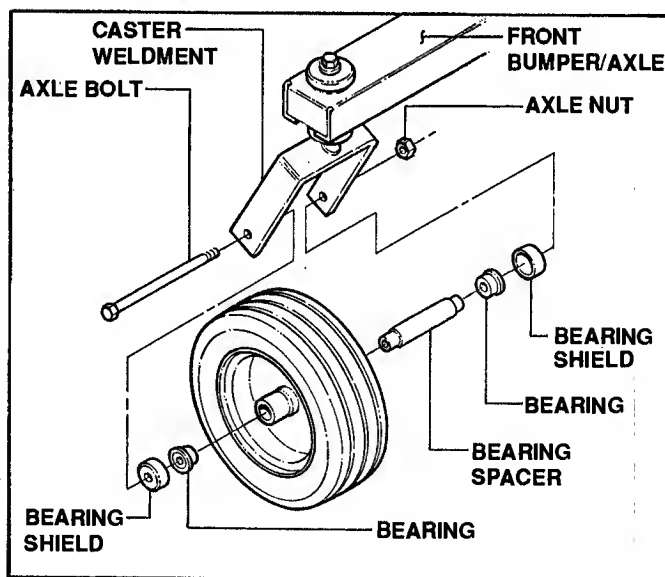

FIGURE 6.4
C. Remove bearing shields, bearings and bearing spacer from caster wheel assembly. See Figure 6.4.